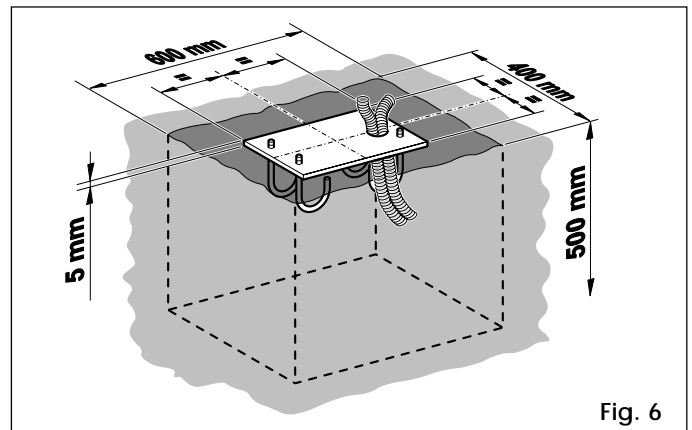

Fig. 6
- 2) Prepare a foundation plinth as shown in Fig. 6 (for soft ground).
- 3) Install the base plate as shown in Figure 6, providing one or more conduits for electrical cables. Use a level to check that the plate is perfectly horizontal and wait for the cement to set.